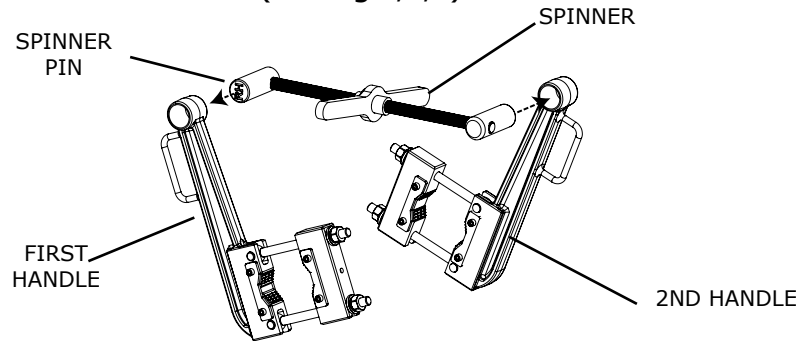

Fig 7
3. Assemble the remaining StraightLine Breakout Wrench parts, including second handle and spinner handle as illustrated (see Fig 7,8,9).
Secure second handle to second component by attaching removable die holder to second handle using two nuts. Insert spinner pins into bosses on the ends of the handles as shown in Figs 7, 9.